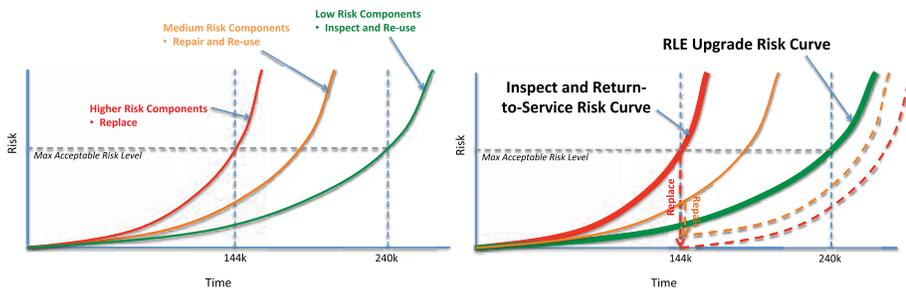

Figure 2. GE's RLE Upgrade Approach
management strategy. GE uses a tiered risk-management approach that incorporates a portfolio of three available options: replacement-in-kind, performance upgrades, and life-extension. These can be applied individually or in concert to best suit an operator's specific strategic objectives. Each rotor is uniquely characterized by the combination of its particular configuration and operational history. Based on a thorough analysis of this history, components deemed low-risk are thoroughly inspected and returned to service. Medium-risk components are thoroughly inspected and repaired, to increase their fatigue/creep life. Higher-risk components are replaced during the re-build process, since this is the most important method for providing lower operating risk during extended operation. During reassembly, cold section blade clocking is reset for improved compressor durability, consistent with US patent 8,439,626. GE's F-Class RLE portfolio offering provides for one or two maintenance-interval (MI) extensions on hours, and one MI extension on starts. This is equivalent to as many as 96,000 additional FFH, or up to 2,400 additional FFS, *without requiring any follow-on inspection*, by virtue of the replacement of higher-risk components. Figure 2 demonstrates GE's approach to designing RLEs.